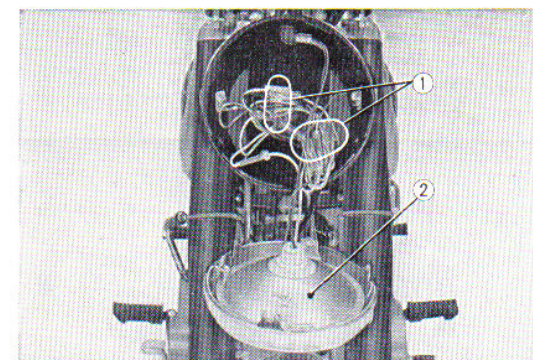

Fig. 4.10 Joint the electrical leads
4. Joint the electrical leads from the handle bar at the headlight case and then mount the headlight unit and the headlight rim. (Fig. 4.10)